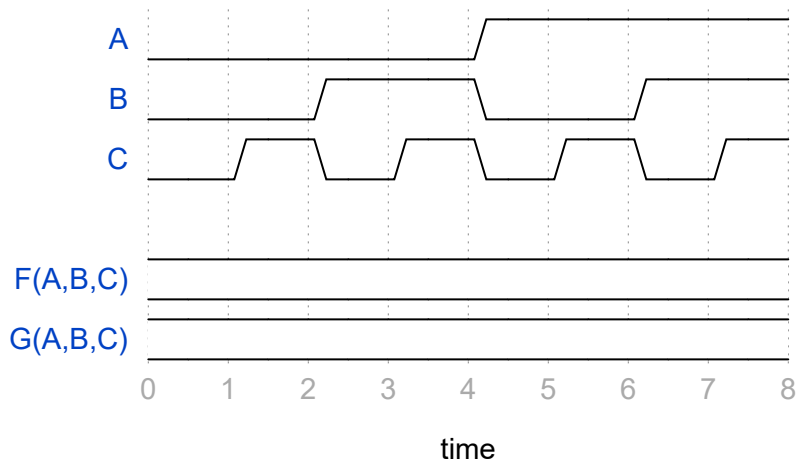

Figure 2.2: The timing diagram for two functions, $F(A, B, C)$ and $G(A, B, C)$.
13. **(4 pts.)** Complete the timing diagram in Figure 2.2 for the functions $F(A, B, C) = AB' + BC + ABC'$ and $G(A, B, C) = (A + B')C + (BC')'$